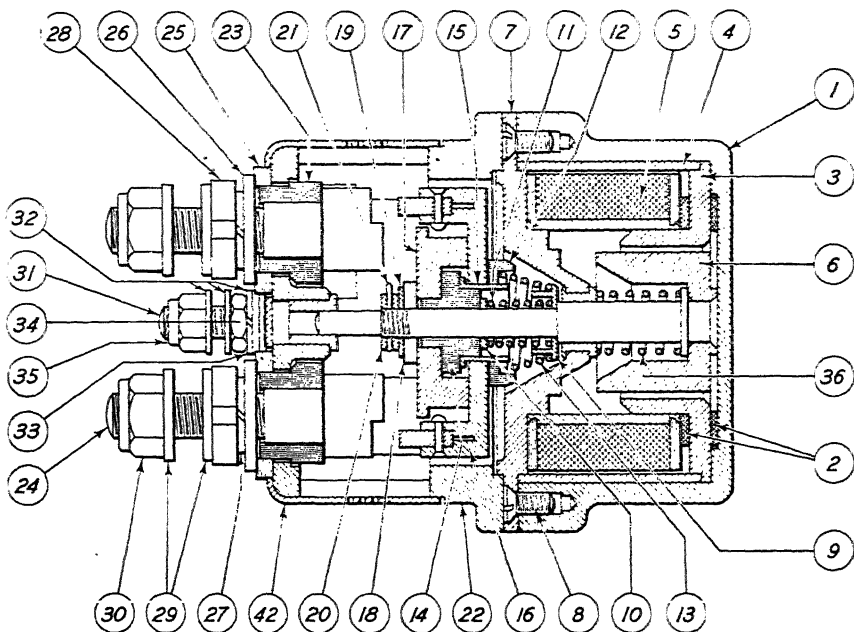

Fig. 13.—SECTIONAL VIEW OF B.T.H. SOLENOID SWITCH TYPE 04B-1.
Fig. 12 is a photograph of the B.T.H. Type 04B-1 solenoid switch partly dismantled to show the contacts. The outside of this switch was shown in Fig. 4, and a sectional drawing is shown in Fig. 13. This switch avoids the need to take heavy cables into the cockpit, and is wound for either 12 or 24 volts. Its contacts are designed to carry 350 amps., and the current taken by the solenoid winding is 5 amps. for the 12-volt version and 2.5 amps. for the 24-volt version.
Referring to Fig. 13, (1) is an aluminium body, containing steel parts (3), (4), and (7), which carry a magnetic flux when energised by the winding (5), and the plunger (6) is attracted to the plate (7), compressing the return spring (36), and causing the copper contact bar (17) to bridge the main copper contacts (24).